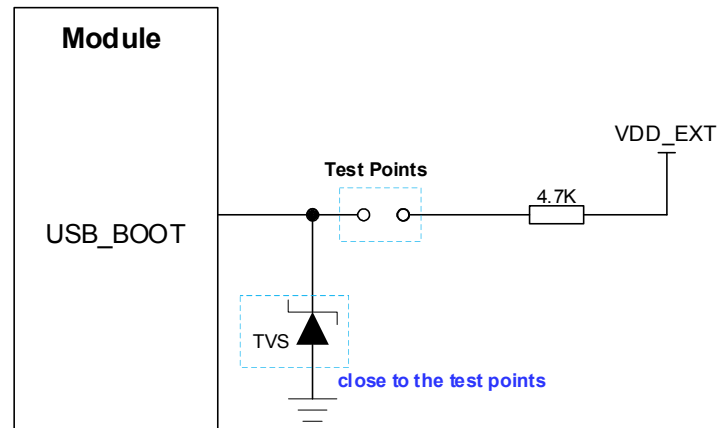

Figure 19: Reference Design of USB_BOOT
2. When using MCU to control module to enter the emergency download mode, follow the above timing sequence. It is not recommended to pull up USB_BOOT to 1.8 V before powering up VBAT. Connect the test points as shown in **Figure 19** can manually force the module to enter emergency download mode.
4.3. (U)SIM Interfaces